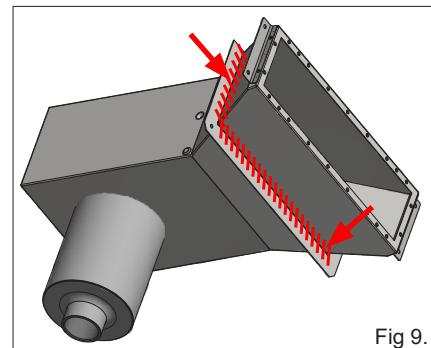

Fig 9.
2. Apply sealer at the joint between the sealing flanges and the skimmer housing (see Fig. 9). Pahlén recommends Tec7 as a sealant from Novatech (available from Pahlén) or Aqua Max from Griffon. Upon application of the sealant, it is important that the joints are tight, so that no water can penetrate. See sealant instruction for preparation, application and hardening.